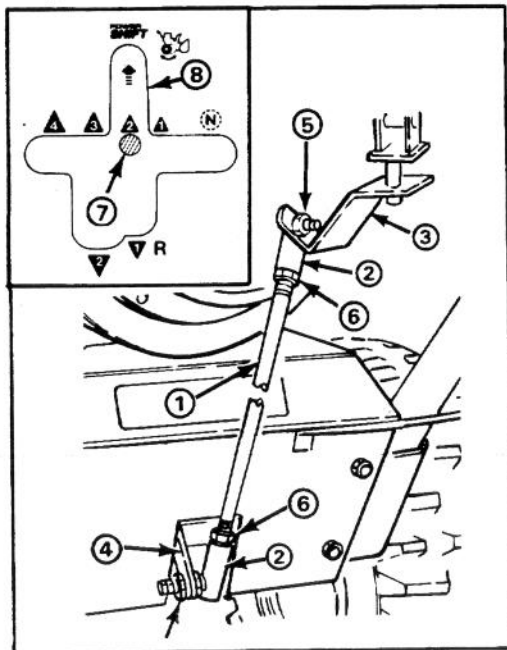

Figure 4
### INSTALL SHIFT ROD (Fig. 4)
**Note:** If gear shift lever is not aligned with Power Shift slot in control panel (Fig. 4, Inset), shift rod length must be adjusted as follows: